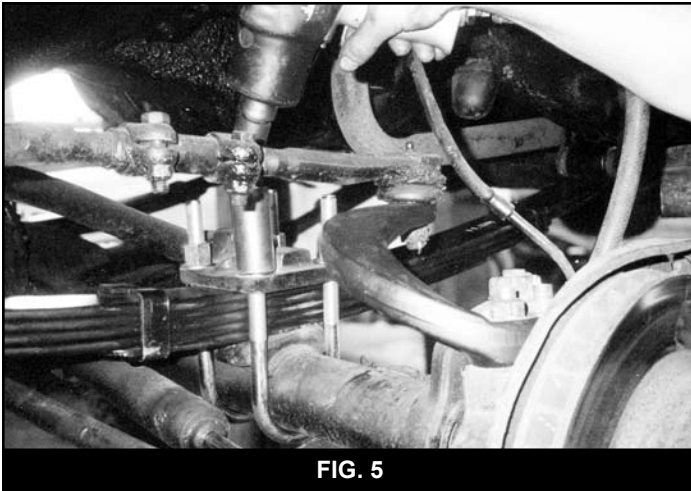

FIG. 5
12. Clean axle pad and studs, inspect for damage or penetrating rust. Consult the OEM service manual for stud replacement. Install new arm and torque fasteners to 175 ft.lbs. (Fig. 5)